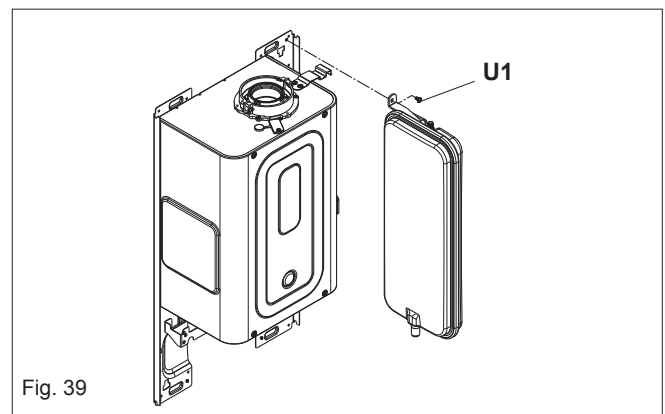

Fig. 39
6.19 EXPANSION VESSEL REMOVAL (fig. 39)